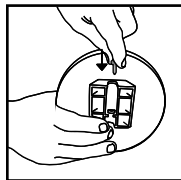

FIGURE 11
14. Insert screw provided through back of axle housing. **FIGURE 11.**